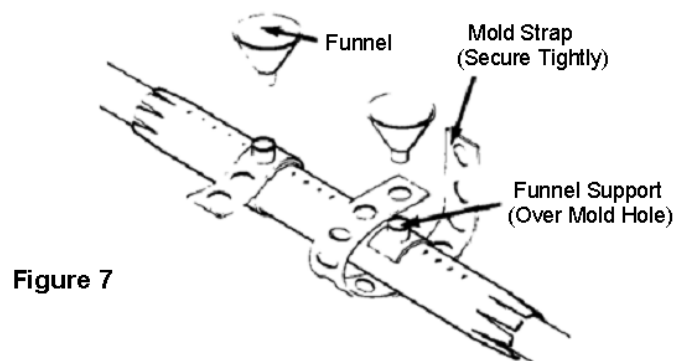

Figure 7
5. Position funnel supports over mold holes and secure tightly with mold straps. (Figure 7)
7. Install funnels into funnel support holes. (Figure 7)